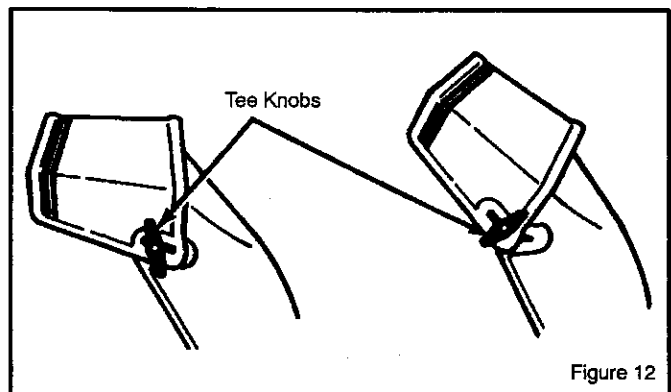

Figure 12
2. Adjust snow chute deflector. Loosen wing nut on the side of the snow chute and raise chute deflector for more distance. Tighten wing nut. (see Figure 12).